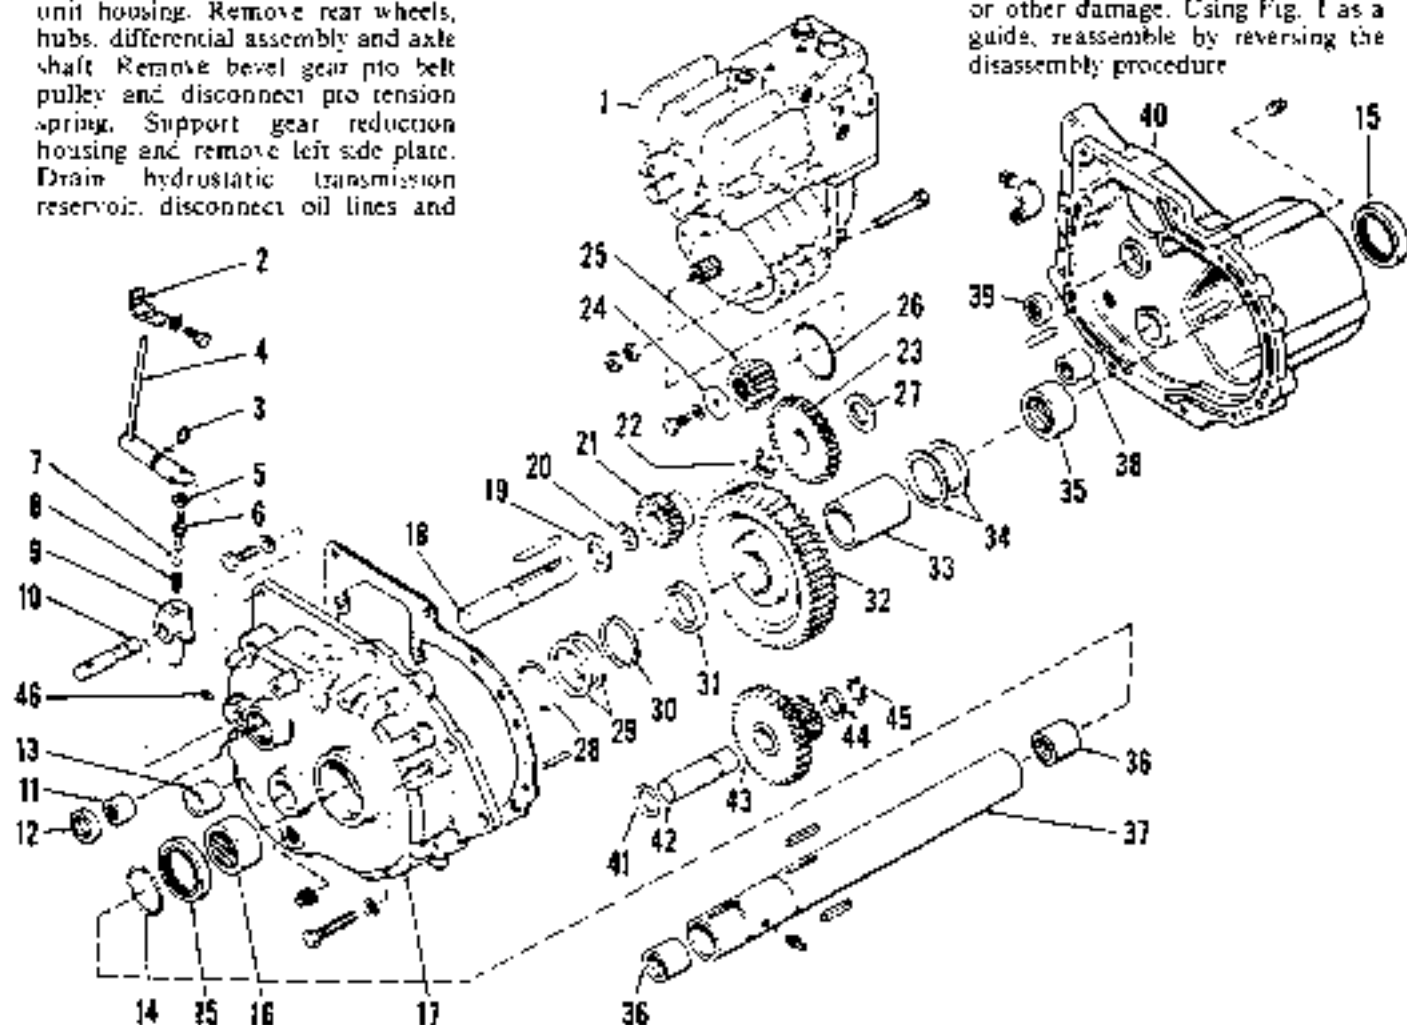

Fig. 1—Exploded view of gear reduction unit used on models equipped with a hydrostatic transmission
keyed end of axle tube (37—Fig. 1). Unbolt and remove cover (40) from case (17). Remove washer (27) and first reduction gear (23). Remove snap ring (14), then withdraw output gear and axle tube assembly (28 thru 37). Remove second reduction gear and shaft assembly (41 thru 45). Loosen set screw (46) and remove as a unit, the shift fork and rail assembly (7 thru 10) and the brake shaft assembly (18 thru 22). Use caution when removing shift rail (10) from shift fork (9) as popper ball and spring (7 and 8) will be released. Loosen locknut (5), remove shifter stem (6) and withdraw shift lever (4). Oil seals and needle bearings can now be removed from case and cover as required.
Clean and inspect all parts and renew any showing excessive wear or other damage. Using Fig. 1 as a guide, reassemble by reversing the disassembly procedure.